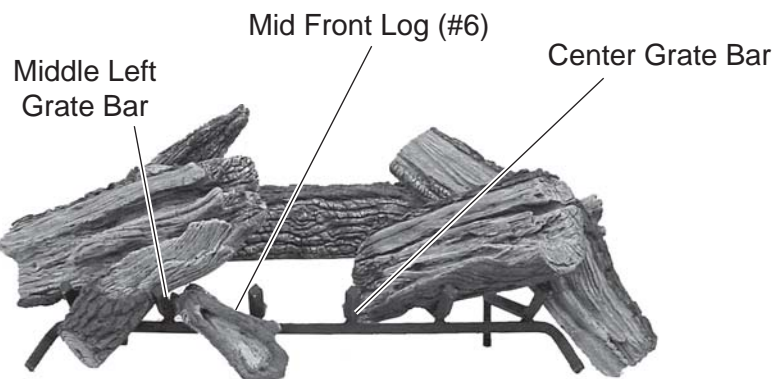

Figure 143 - Placing Mid Front Log (#6) on Grate Between Center and Middle Left Grate Bars.
7. Place Mid Front Log #6 on grate between center and middle left grate bars. Fit notch on back of log on the cross grate bar. *See Figure 143.*